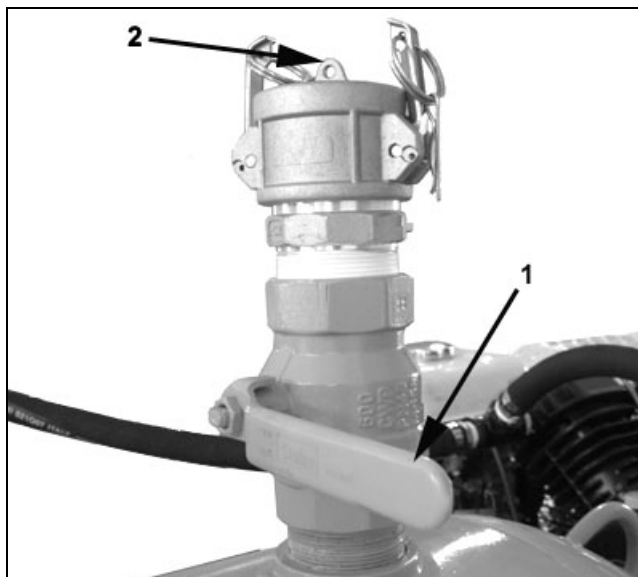

Figure 10 - Fill Valve and Cam-Lock Cap
2. Verify that the product tank fill nozzle valve (1) is closed as shown in Figure 10.
3. Remove the cam-lock cap (2) from the new product tank fill nozzle. See Figure 10.